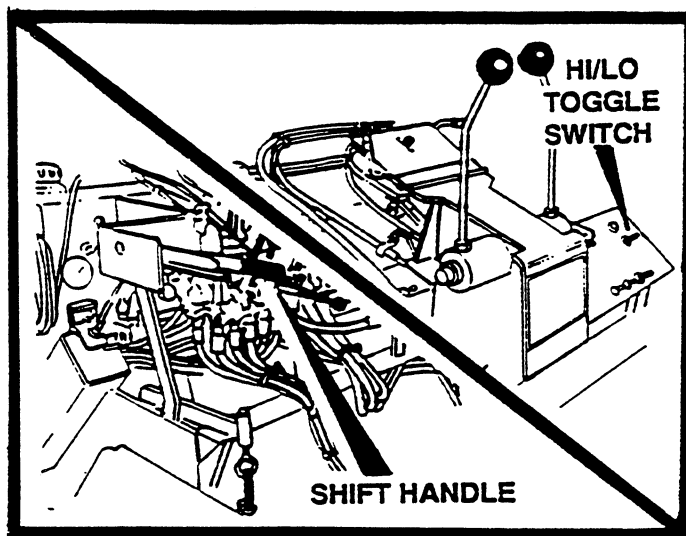

FIGURE 21
- E. Always pave in low range. See Figure 21.
2. Figure 21 shows two methods of shifting the paver from HI to LOW gear. High and Low gear cable is used with the two speed transmission. Push down to low gear, pull up to high gear. High and Low toggle, is a toggle switch used with the Torque Hub. Pull toggle switch down to low and push up to high gear. When the paver is equipped with torque hub, a high gear indicator light will be on steady, indicating that paver is in high gear. ( 1000 D only have 1 speed.)